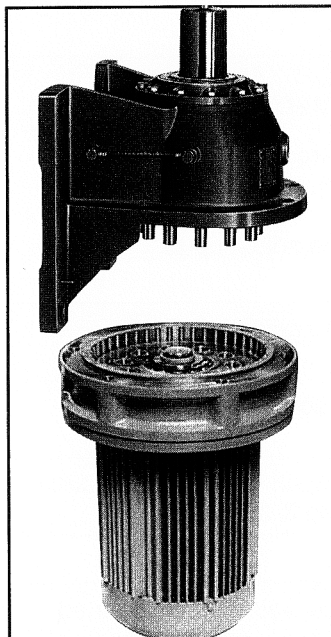

Fig. B-20
6. Take out the slow speed shaft rollers, item 1-06, page B-3 (Fig. B-20). Check the slow speed shaft pins (1-01) to see whether any rollers have adhered to them.
8. Insert slow speed shaft rollers (Fig. B-20).